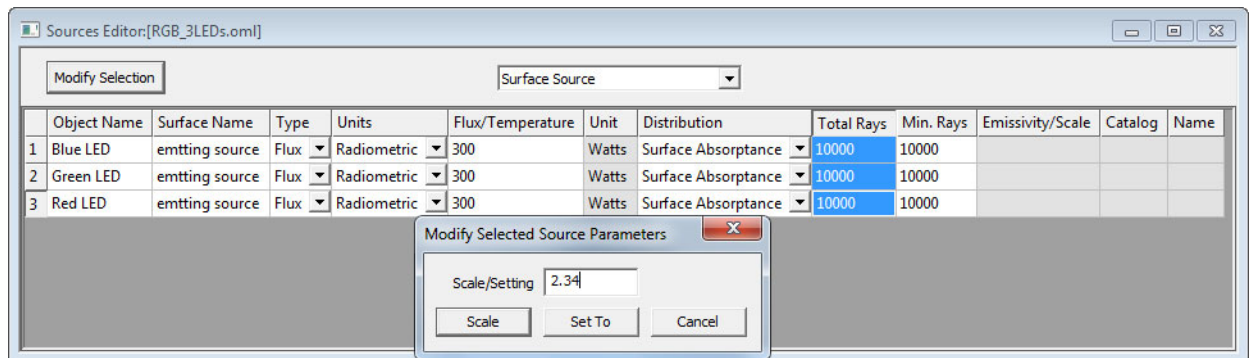

FIGURE 5.24 - Sources Editor Modify Dialog box
1. Select one or more source parameters as shown in Figure 5.24. In this example the selection includes the Total Rays for all defined sources.
2. Press *Modify Selection* to display the Modify Selected Source Parameter dialog which provides an entry for a new parameter value or scale factor. See Figure 5.24.